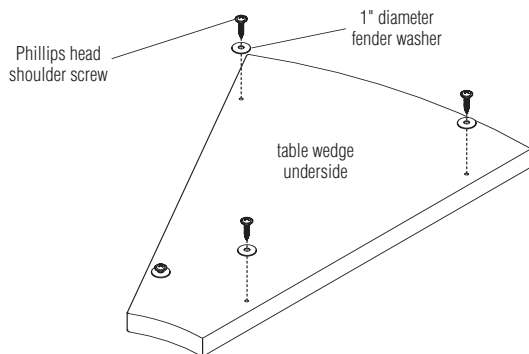

Figure 1
1. Place a 1" fender washer onto four Phillips head shoulder screws and tighten to the underside of the wedge as illustrated (figure 1).